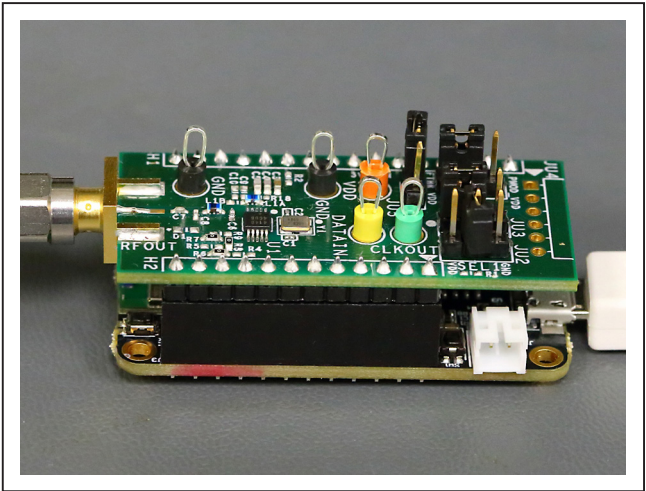

Figure 3. MAX4146x EV Kit Orientation to FTHR Board
2. **Connect the MAX4146x EV kit to the FTHR board,** be sure the USB connector is oriented on the opposite side of the SMA connector, as shown in Figure 3.
- Connect the MAX4146x EV kit to the FTHR Board,** be sure the USB connector is oriented on the opposite side of the SMA connector (see Figure 3).